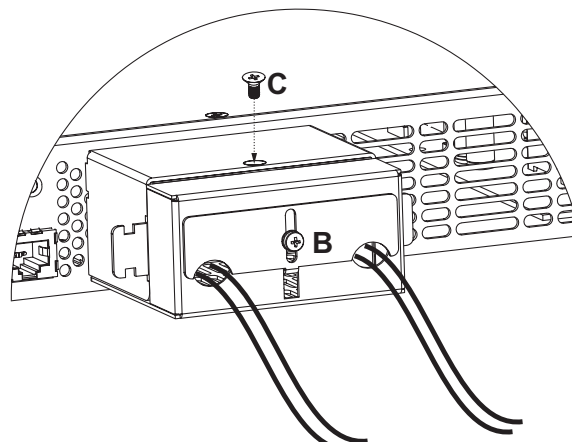

Fig.3-9: Enclosure assembly
7. Assemble the enclosure bottom cover to it's place, as shown in Fig.3-9,using screw "C", (tightening torque 4.8-5.3 Lb-inch).